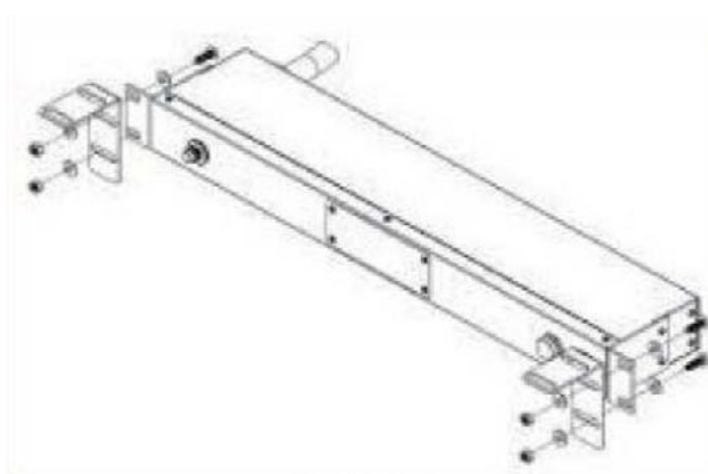

FIGURE 2
1. Attach the two (2) XPDU horizontal mounting brackets (included) on each end of the XPDU using four (4) retaining screws (included) see Figure 2.
2. Attach the two vertical mounting brackets (included) to the horizontal rack mounting brackets on each end of the XPDU using four (4) retaining screws (included) see Figure 2.
3. Install the XPDU in a suitable vertical location on the side of the rack rail with four (4) user provided mounting screws.